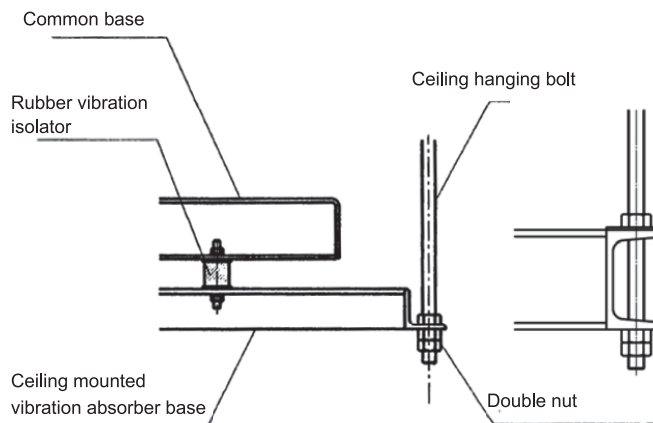

Figure 5 – Installation example of a ceiling mounting type
- (1) By connecting the fan's base to the hanging bolts that are embedded in the ceiling, horizontally suspend the fan. Ensure that the load of the fan is evenly distributed among all the hanging bolts.
- (2) Be sure to use hanging bolts that are strong enough to sustain the load (in terms of the strength of the bolt itself as well as the pre-installed condition).
- (3) After you have installed the fan, lock the nut on each hanging bolt to prevent them from coming loose.
- (4) To make the fan earthquake-resistant, firmly install the fan onto a section steel frame fixed onto a building structure.
- (5) As shown in Figure 5, firmly fix the ceiling mounted vibration absorber base onto the ceiling hanging bolts. To prevent the unit from vibrating horizontally, install a vibration isolator bracket at an angle onto each ceiling hanging bolt using a continuous-thread stud, turn buckle, or other parts.